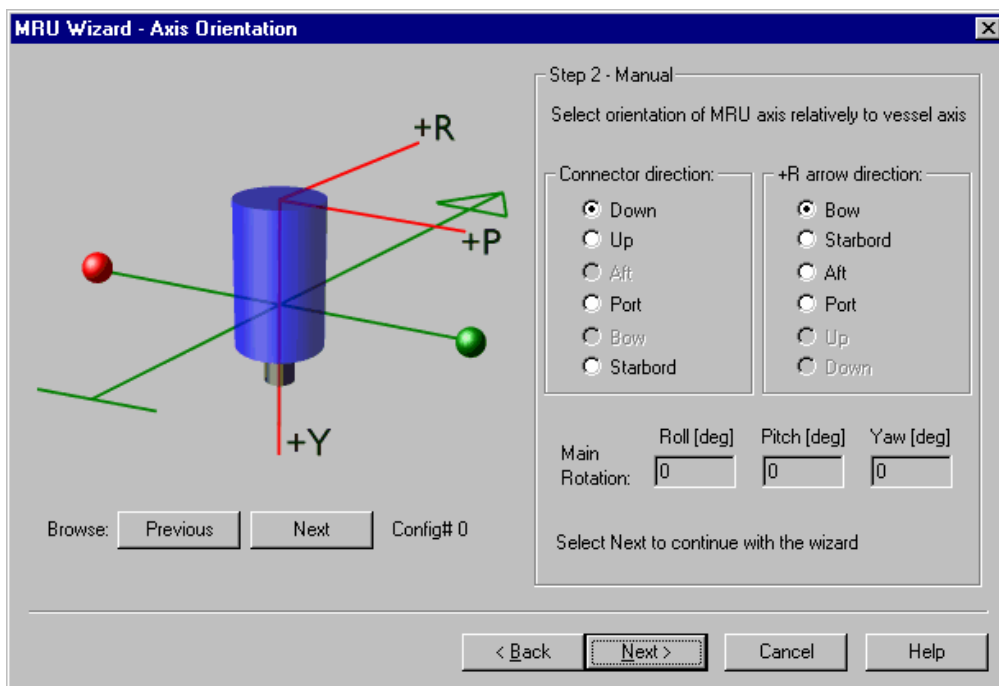

Figure 48 Step 2 of Manual MRU Axis Orientation
- Manual setup selected in Step 1. Click **Next** to go to the **Step 2 –Manual** window as shown in Figure 48. Click the **Previous** or **Next** buttons in the left part of the window to turn the MRU unit around in 90-degree steps, axis by axis. Click until the correct mounting orientation of the MRU has been found. The right part of the window is automatically updated with the actual main rotation of the MRU.